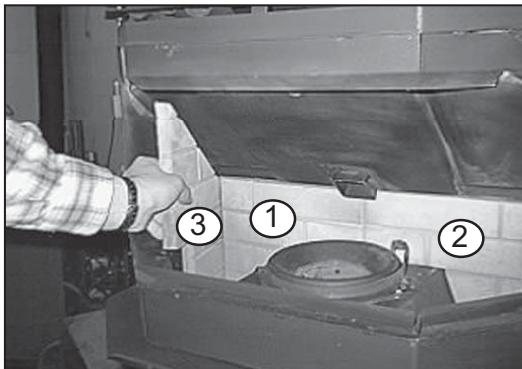

Figure 24.2
- Place left side brick along left side of firebox, making sure chamfered (beveled) back edge fits snugly next to left rear brick. **Figure 24.2.** Repeat with right side brick.